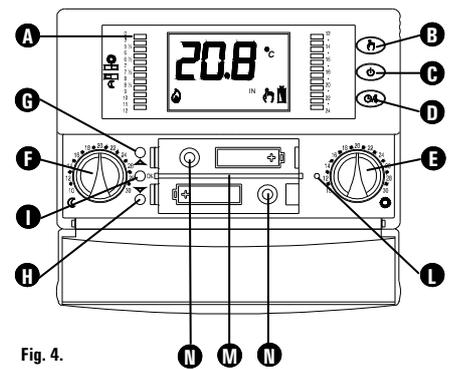

Fig. 4.
- Fit the programmable thermostat onto the wall-mounted plate, first matching up the teeth on the base with the holes provided on the plate and then pressing downward on the device until the plastic teeth of the plate click into place; then fix the programmable thermostat body to the wall-mounted plate with the two screws supplied which must be mounted in the battery holder (Fig. 4).
- Insert the batteries in the battery compartment (M in Fig. 4); see paragraph 'HOW TO INSERT/REPLACE BATTERIES'.
- Open the flap of the battery compartment (Fig. 4).
- Only in the case that the programmable thermostat does not respond correctly, carry out a reset operation by means of the button as showed in L in Fig. 4;